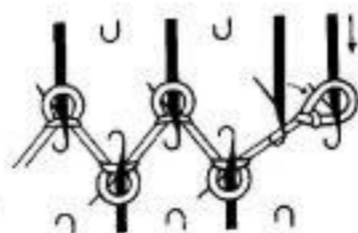

Fig. 77
- Transfer the second stitch from edge to the third needle. (Fig.77)